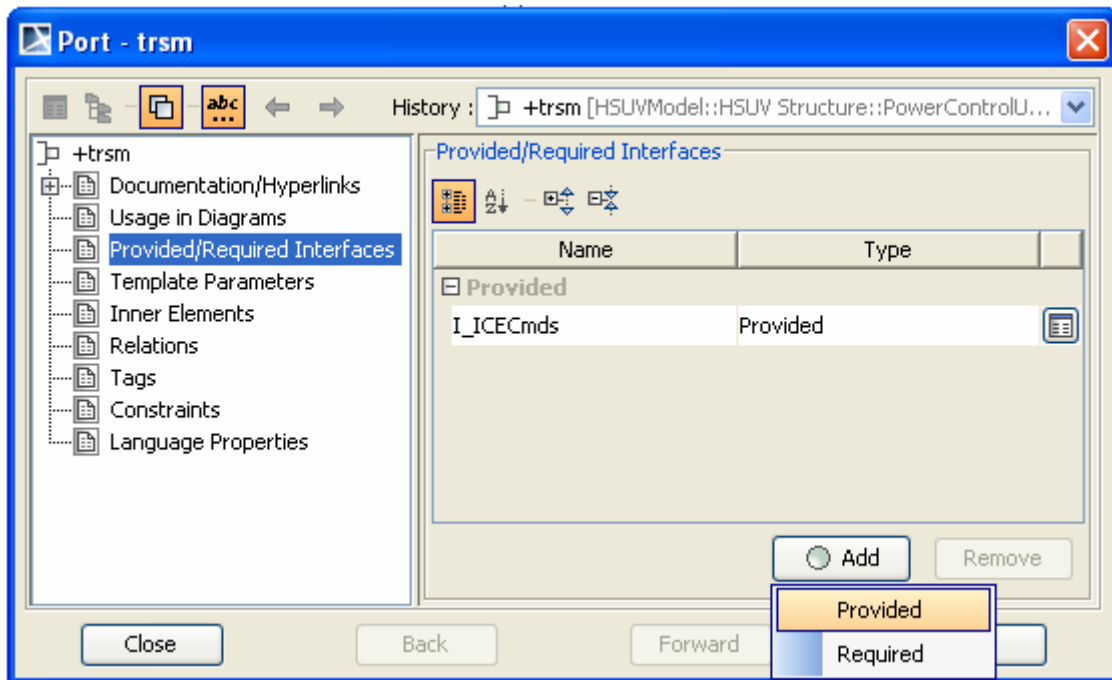
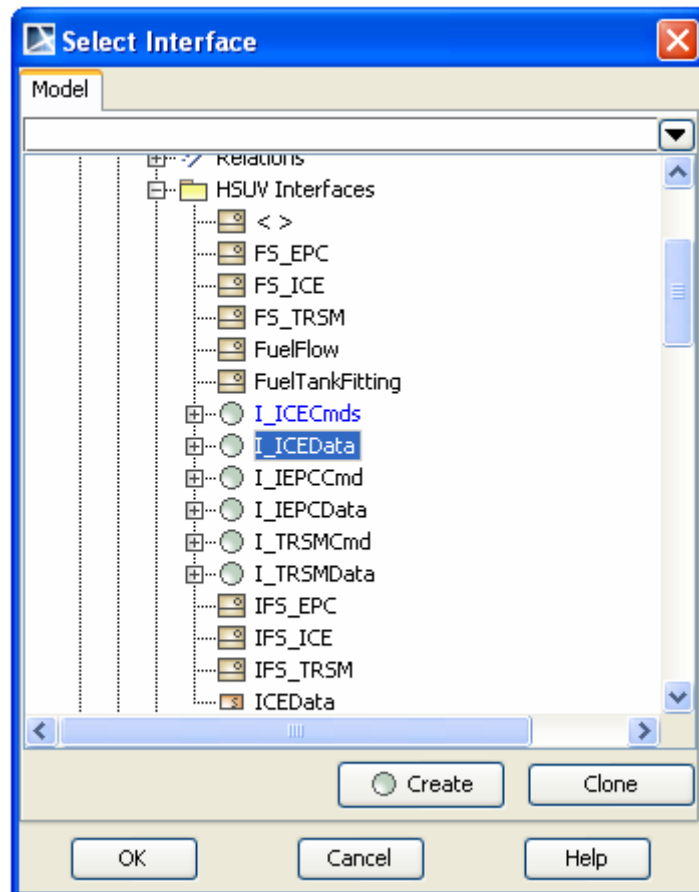
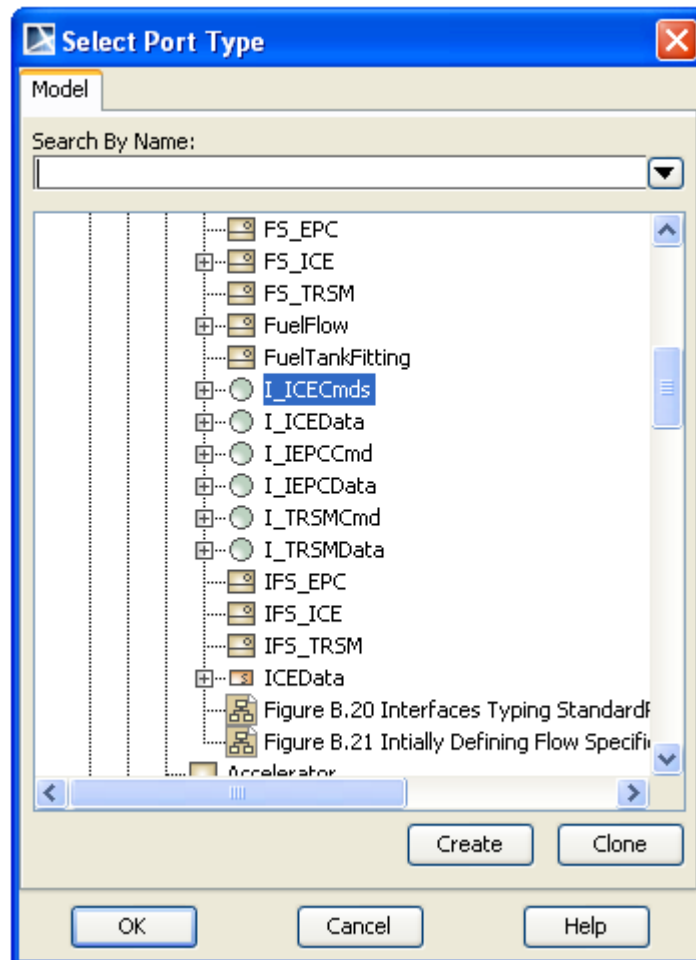

Figure 72 -- Port Specification Dialog, Provided/Required Interfaces Group
Figure 73 -- Select Interface Dialog
Figure 76 -- Select Port Type Dialog for Provided / Required Interface
- Right-click a port to open its shortcut menu, and then select **Specification** to open the **Specification** dialog. Then, select the **Provided/Required Interfaces** group to open the **Provided/Required Interfaced** pane (Figure 72).
- Click a port in a diagram to open its smartmanipulator menu, and then select the **Provided/Required interfaces** icon to open the **Provided/Required Interfaced** pane(Figure 72).
2. Click **Add** (Figure 72) and then select either (i) **Provided** or (ii) **Required**.
Case 1) If the port is typed, the **Select Interface** dialog will open (Figure 73). You can then either:
- (For Provided Interface only) **Set provided interface as port type**. The **Select Interface** dialog (Figure 73) will then open. In the dialog, you can either choose an existing interface or create a new one, to be used as the Provided Interface and the type of the port.
- **Create “dummy” port type automatically**. The **Select Interface** dialog (Figure 73) will then open. In the dialog, you can either choose an existing interface or create a new one, to be used as the Provided or Required Interface (as selected in Figure 72) of the port. In addition, a dummy classifier, realizing (for Provided) or using (for Required) the interface, will be automatically created and used as the type of the port.
- **Select or create port type manually**. The **Select Port Type** dialog (Figure 76) will then open. You can then choose a classifier to be used as the type of the port. Click **OK**, the **Select Interface** dialog (Figure 73) will then open. In the dialog, you can either choose an existing interface or create a new one, to be used as the Provided or Required Interface (as selected in Figure 72) of the port. In addition, a Realization (or Usage) dependency will be automatically created from the port type to the Provided (or Required) Interface of the port.